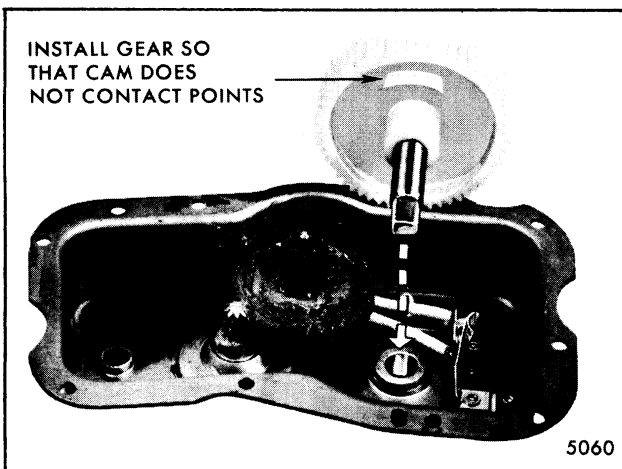

Fig. 2-15-Gear Installation
3. Install output gear and shaft assembly with cam at least 90 degrees away from park switch (Fig. 2-15).